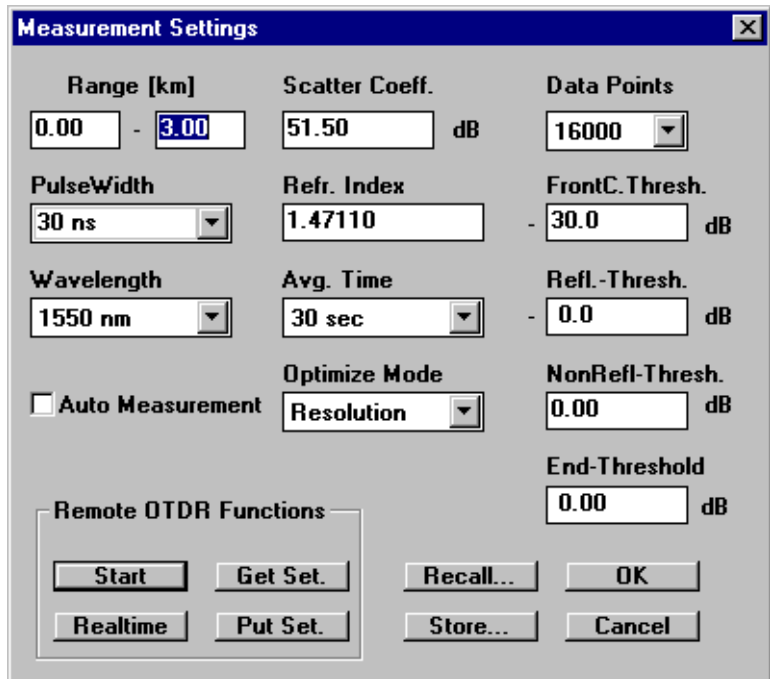

Figure 2-3
- 7 Select the menu option [MEASUREMENT]<RUN/SETTINGS>. You see a window headed Measurement Settings (Figure 2-3). This contains settings for future measurements.